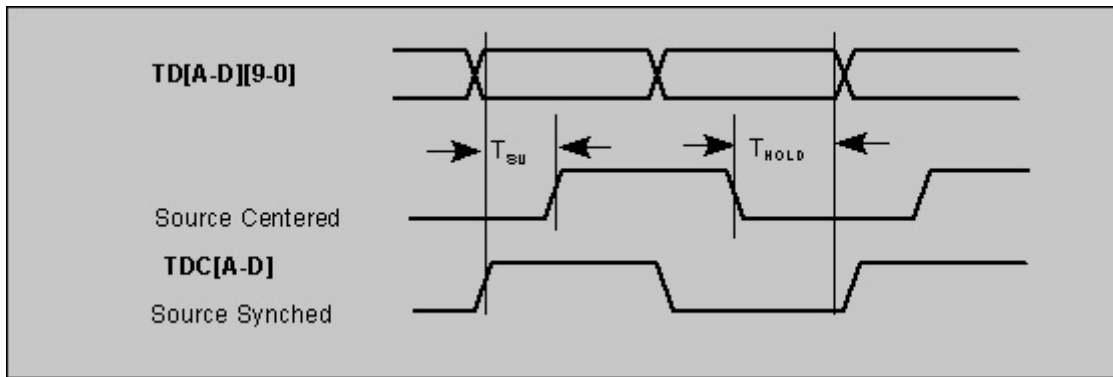
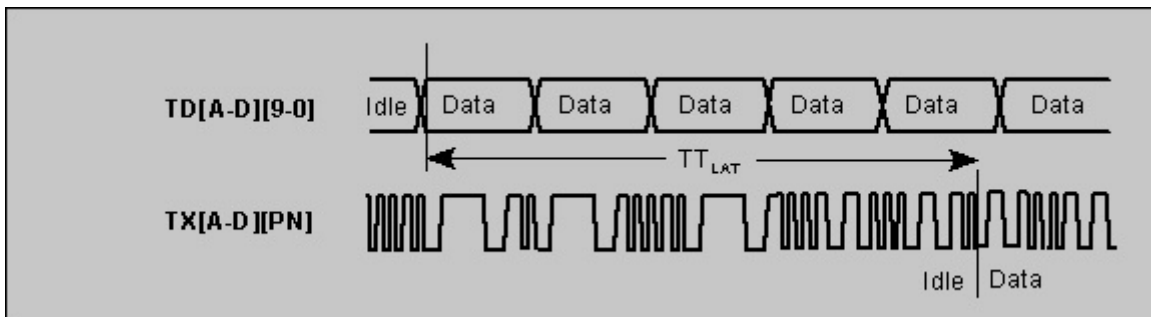

FIGURE 6-1. TRANSMITTER PARALLEL TIMING
FIGURE 6-2. TRANSMITTER LATENCY
**TABLE 6-8. TRANSMIT PARALLEL INTERFACE TIMING** (see Figure 6-1 & Figure 6-2)